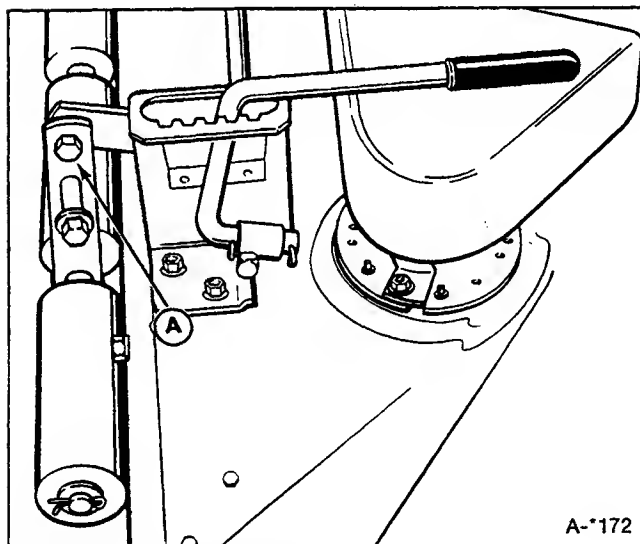

Figure 36. Shoulder Bolt
5. Loosen the shoulder bolt (A, figure 36) and raise or lower mower as necessary to level it. Retighten the shoulder bolt and torque to 40 ft. lbs.